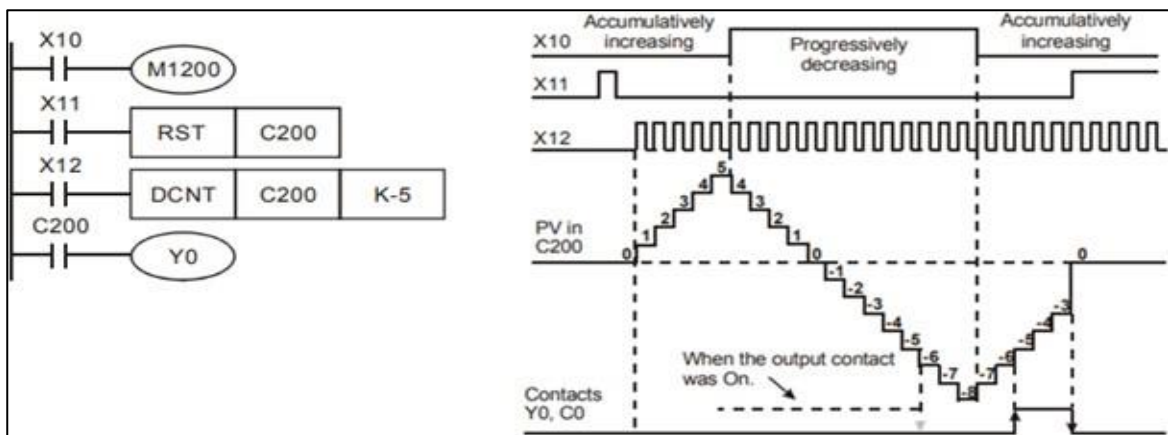

Fig.11 Up-Down counter using Programmable Logic Controller
1. Compare the results of Up-Down counter operation for fig.11 using ladder diagram in terms of concepts.